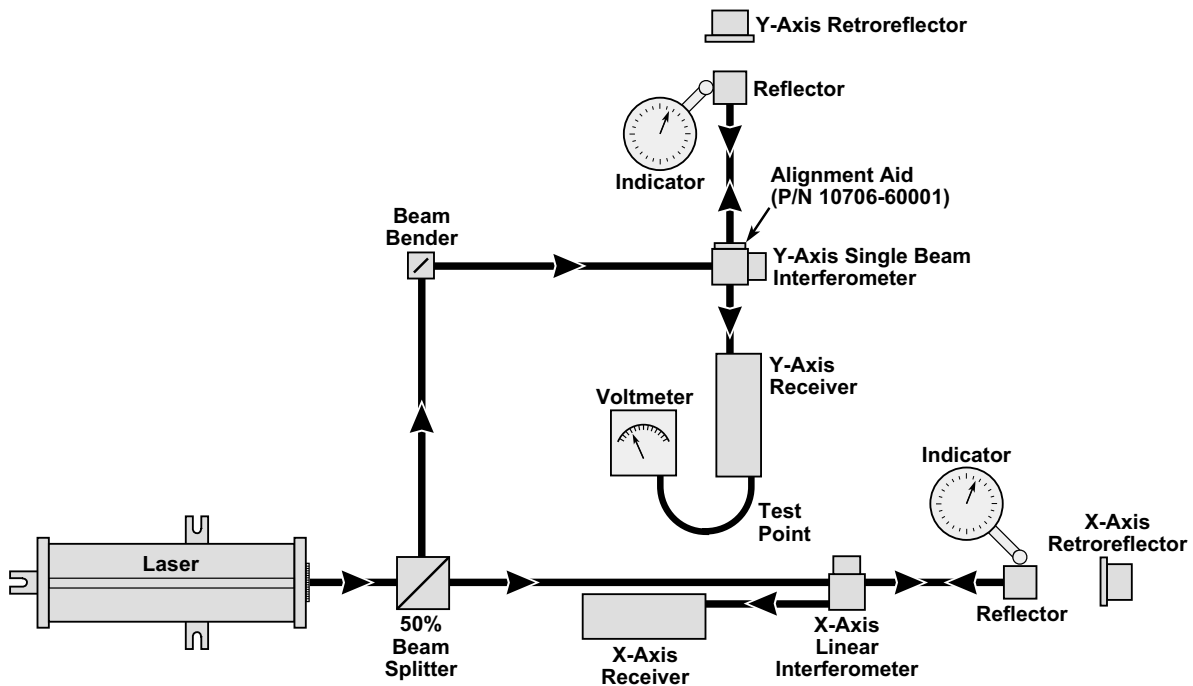

Figure 4-13. Autoreflexion alignment
Figure 4-13 shows a measurement setup similar to Figure 4-14(A) except that the referenced mirrors (true squares) are included.
- 3 Place a referenced mirror (true square) between the interferometer and retroreflector so that the measurement beam from the interferometer hits its reflective surface. (See Figure 4-13.)
Align the referenced mirror (true square) with a precision indicator until its reflective surface is perpendicular to the direction of travel. (See Figure 4-13.)